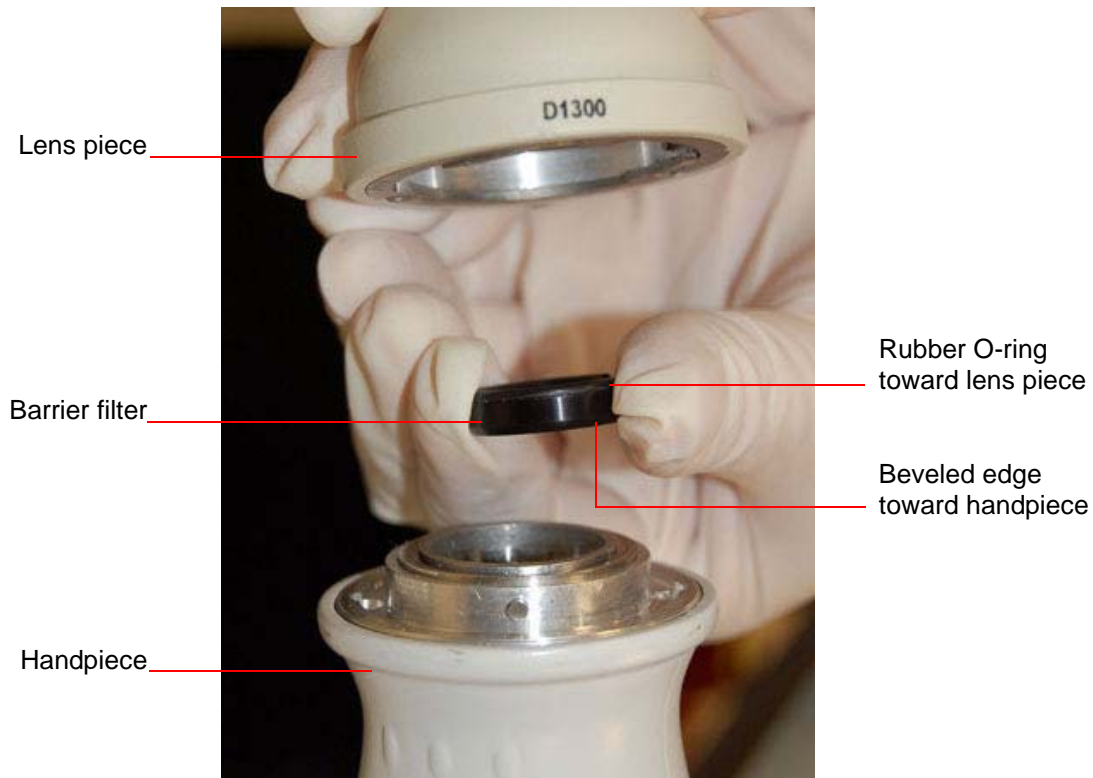

Figure 39 Barrier filter installation
- B. Insert the barrier filter into the cavity of the handpiece, observing the orientation as shown in Figure 39.